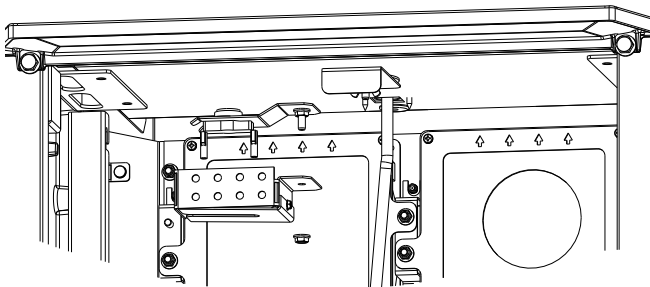

Figure 10.15. Install the Snapstat cover using a second M6 nut and tighten securely.
16. Manipulate the Snapstat harness through the protective cover then attach the protective cover assembly to the stud at the bottom of the firebox using a second M6 flange nut. Bend the cover shut. See fig 10.15.